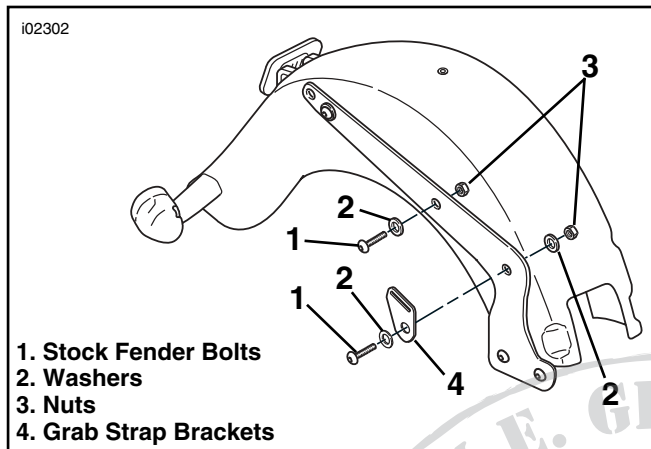

Figure 7. Fender Hardware Removal (Right Side), 2000 Through 2002 FLSTC and FLSTF
- See Figure 7. Remove the two forward rear-fender bolts (1), washers (2), nuts (3) and grab strap bracket (4) on the right side of the vehicle. Discard the bolts, but save all remaining hardware for re-use.